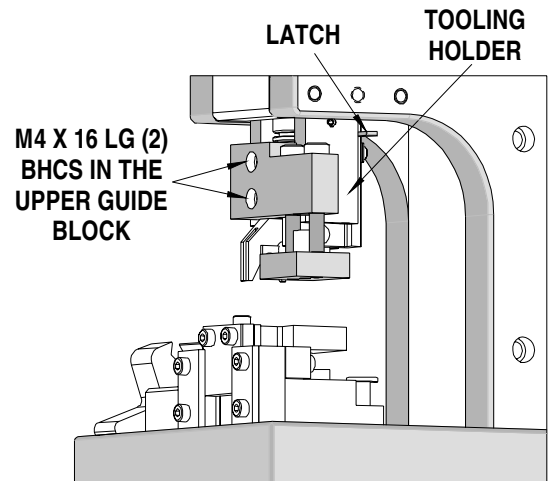

Figure 2-2
5. Tighten the (2) M4 X 16 BHCS in the Upper Guide Block. The upper tooling is now securely in place on the press. See Figure 2-2.